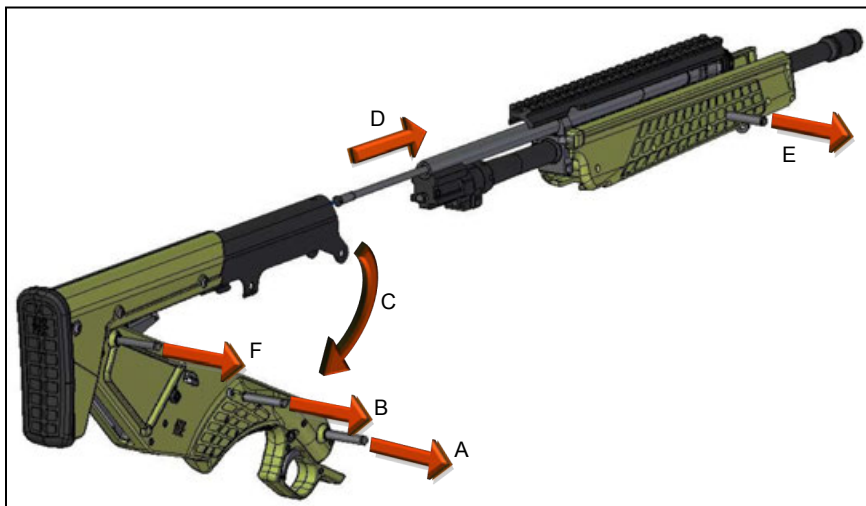

Figure 3.1 – Receiver, Grip, Barrel, and Bolt Separation
2. Push the two grip frame pins (“A” and “B” in Figure 3.1) all the way to the right. The pins are captive and will stay in the grip.
3. Rotate the grip downwards (motion “C” in Figure 3.1), pulling by the trigger guard and holding the barrel.
4. Slowly allow the barrel and bolt to slide forward out of the receiver (“D” Figure 3.1).
7. In a similar fashion as the grip assembly, push out the handguard pin (“E” in Figure 3.1). Next, push the handguard forward and then down off of the barrel. Pull the operating handle back and rotate slightly left out toward the muzzle. The gas piston assembly can now be pulled back and removed (Figure 3.3).
8. If necessary, the rear frame pin (“F” in Figure 3.1) can be pulled out and the receiver and grip separated.